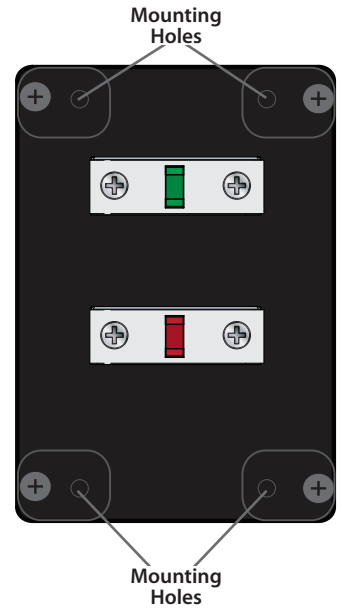

FIG. 20b
- Place a mark through the four mounting holes [FIG 20b].